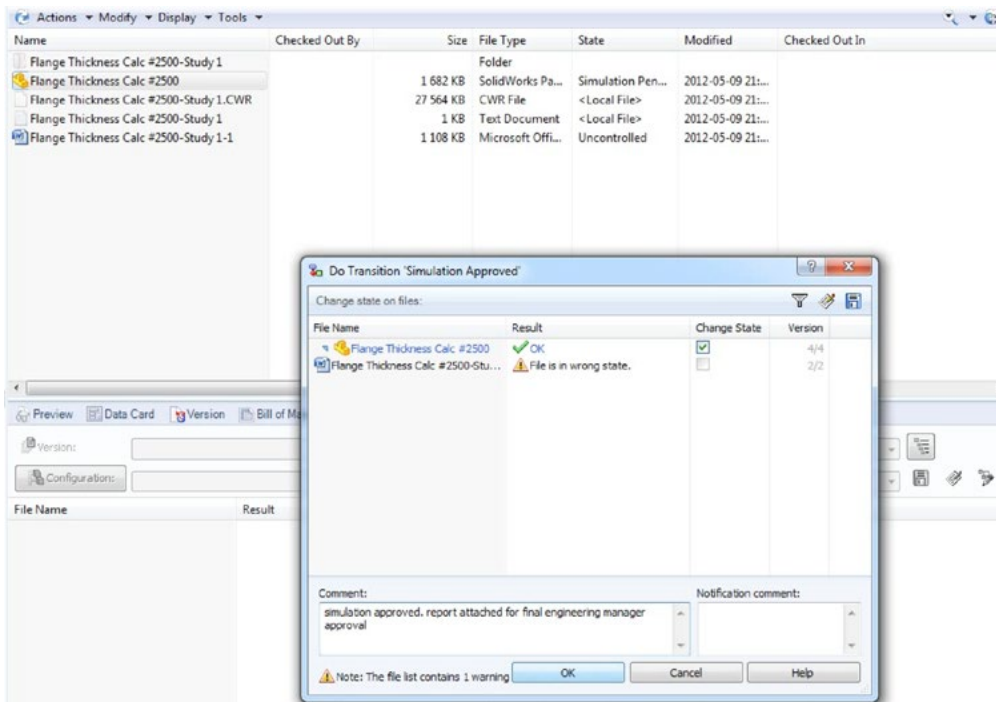

Figure 15: Simulation status set to "Simulation Approved" by simulation manager
Step 6: If all requirements are completed, the simulation manager signs and approves the simulation work and submits the CAD file and simulation data along with any supporting documentation to the main engineering workflow. A notification is sent to the appropriate person (example: engineering manager) for final design approval. Figure 15 shows the last stage of the simulation workflow where the simulation manager sets the workflow status to "Simulation Approved."